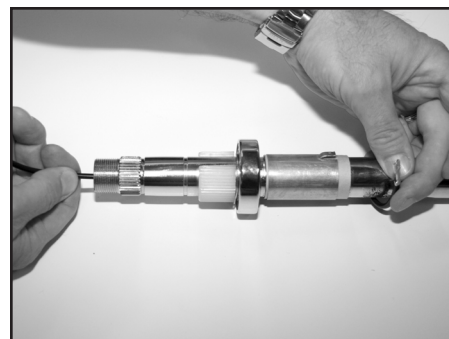

Figure 11
3. Route a new long horn wire through the top center shaft hole. Exit the shaft near the outer shaft contact ring. Connect blade terminal of long wire to the outer shaft contact ring. Figure 11